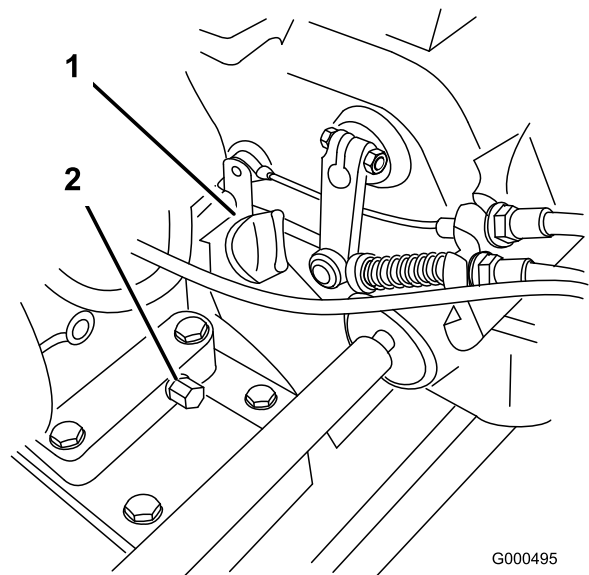

Figure 16
1. Position mower so the engine is level and clean around oil level gauge (Figure 16).
2. Place a drain pan at the rear of machine, under the drain plug (Figure 16).